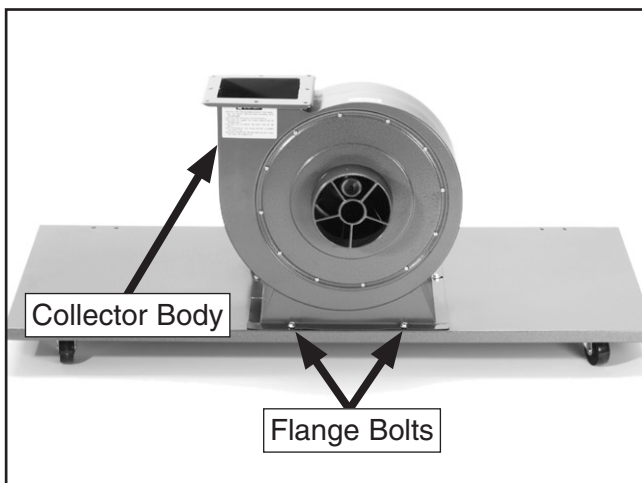

Figure 4. Mounting collector to base.
2. Set the collector body on top of the base plate so the intake portion is near the edge of the base plate and the bolt holes are aligned, as shown in **Figure 4**. Secure the collector body to the base plate with (4) $\frac{5}{16}$ "-18 x $\frac{1}{2}$ " flange bolts.